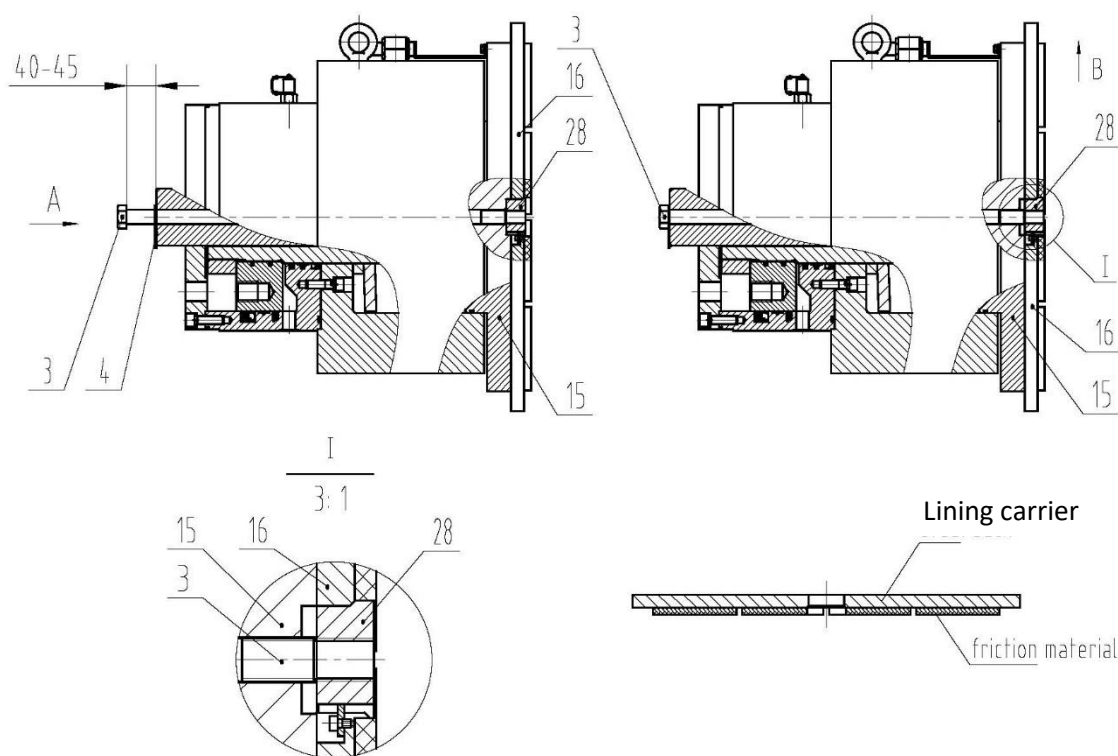

Fig. 12 Lining change
- The pad retaining screw (3) must be completely unscrewed from the socket (28). Please note fig. 12.